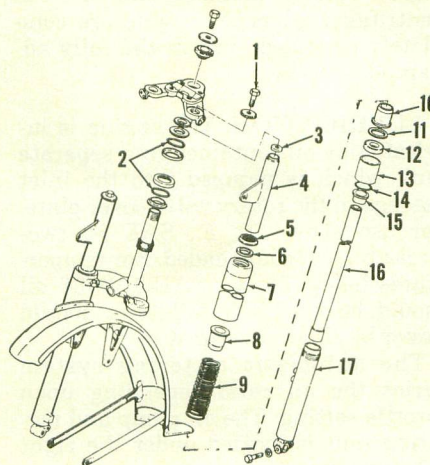

Fig. Y3-12—Exploded view of the front suspension used on YL-2 models. Other models are similar.
drained every 4,000 miles and new oil filled through hole for screw (1—Fig. Y3-12). Nineteen bearing balls (2) are used in each race.